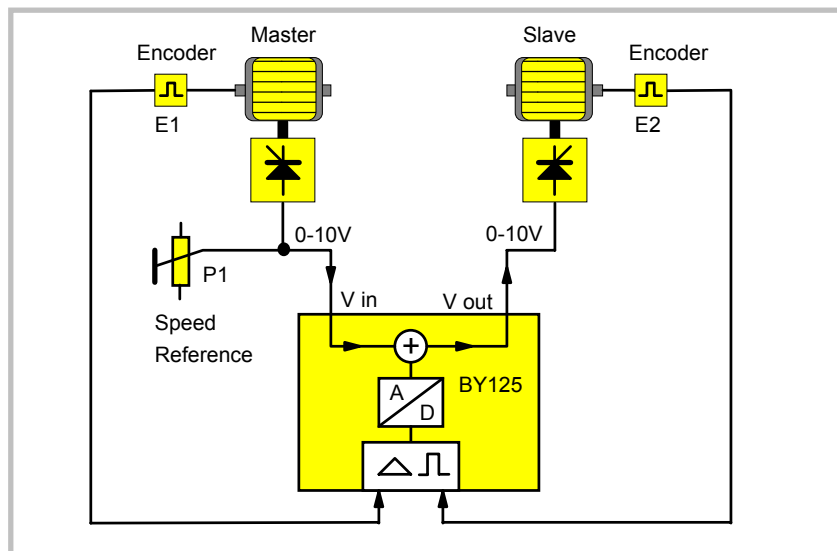

Fig. 2
Fig. 2 shows that a feed **forward signal** "Vin" is needed to run the drives, and a correction voltage is added to receive the total slave speed reference "Vout". It is easy to understand that the feed forward signal must be proportional to the master speed. There are three ways to generate Vin:
- a) Use of the master speed reference voltage, like shown in Fig. 2. This presumes the master drive does not use any remarkable internal ramps, because otherwise Vin would not represent the real master speed upon acceleration or deceleration. As a result, procedure a) must only be used when the master speed reference already includes the ramp (generated by a PLC output etc.) and the drive's internal ramp is set to zero or it's minimum value. However, a real speed analogue signal from a tacho generator can be used at any time. Analogue feed forward should only be used when replacing older existing BY125 units against a new one.